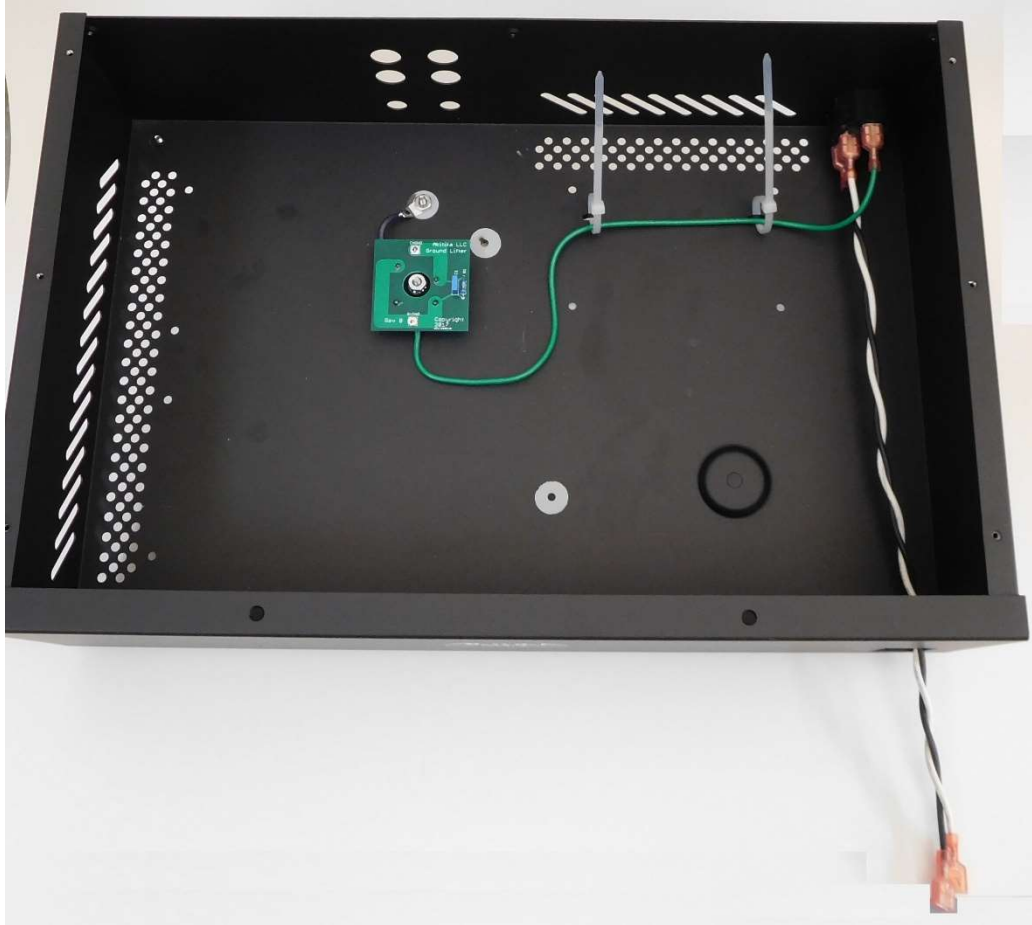

Figure 34-Power wiring with IEC connector installed into chassis
3. Starting outside the chassis, insert the black and white wires (already connected to the IEC power connector) into the hole in the back-right corner of the chassis as shown in Figure 34. **Make sure that the writing on the power connector is right side up!** Push until it clicks in place. It's easy to get it in, and tough to get it out, so double check the orientation before you install it.
4. Dress the black/white jacketed pair with FASTONs as shown in Figure 34. Insert the free end with the FASTONs through the rectangular switch hole in the front panel.
6. Dress the green wire as shown in Figure 34 next to the tie down points. *Loosely loop cable ties as shown. We will tighten them later.*